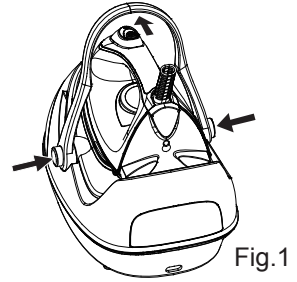

Fig.1
2. Press handle buttons to lay handle down. Fig.1 (Note: When handle is up, the unit is shut off, it will be ON when handle is laid down.)